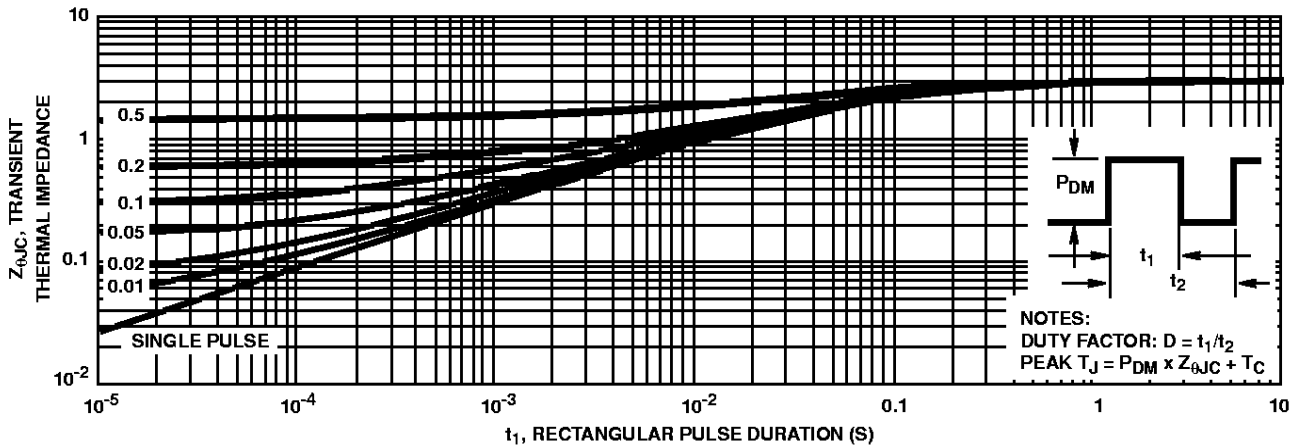

FIGURE 3. MAXIMUM TRANSIENT THERMAL IMPEDANCE
4. Repetitive rating: pulse width limited by maximum junction temperature. See Transient Thermal Impedance curve (Figure 3).